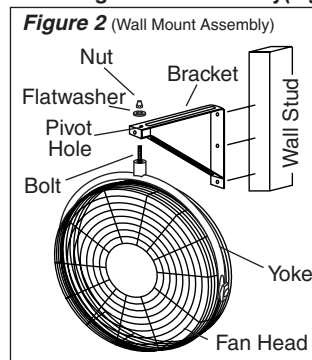
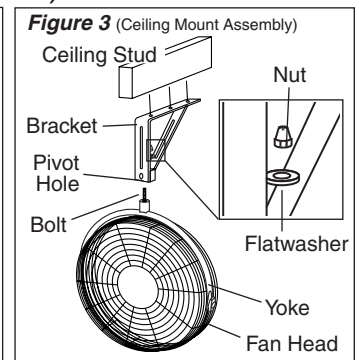

Figure 2 (Wall Mount Assembly)
Figure 3 (Ceiling Mount Assembly)
Wall Mount Assembly (Figure 2)
Ceiling Mount Assembly (Figure 3)
3. Insert Bolt through Yoke, Bracket, Pivot Hole, Flatwasher, and into Locknut. (Figure 2) or (Figure 3)